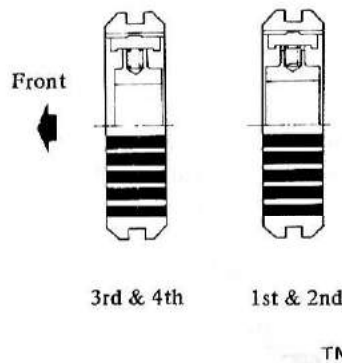

Fig. TM-27 Installing synchronizer hub
Position shifting insert springs and shifting inserts in three(3) slots in synchronizer hub; put coupling sleeve on synchronizer hub. See Figure TM-27.